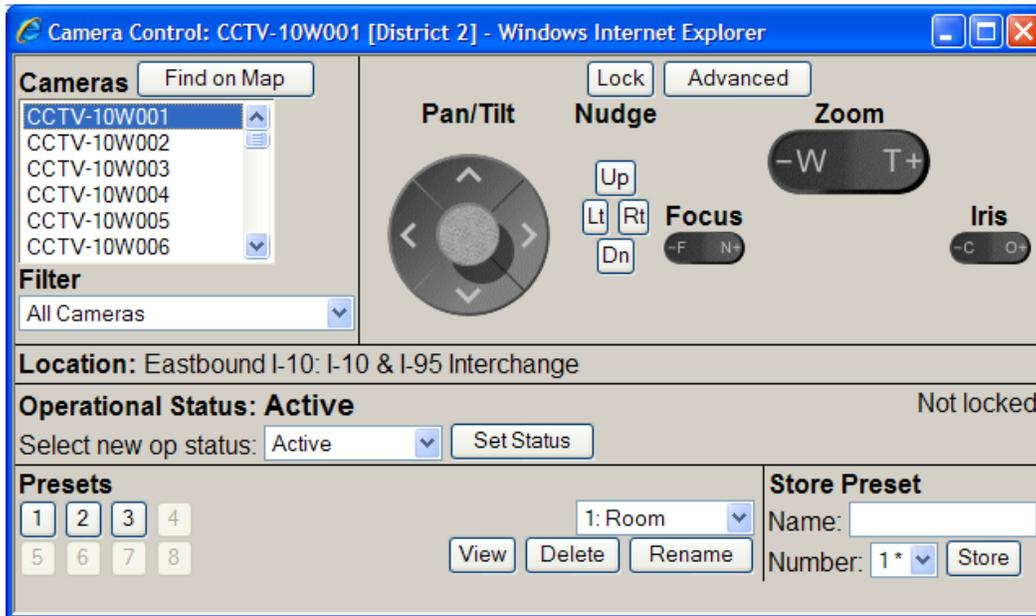

Figure 3–62 – Camera Control
selecting Camera Control from the context menu. The Camera Control panel is shown in Figure 3–62.
- **Advanced** (see Figure 3–63): Allows advanced commands to be sent to devices, this includes features like camera menu control and the ability to query various features of the device. Those values that may be queried are listed below; definitions for these can be found in NTCIP 1205 standard.